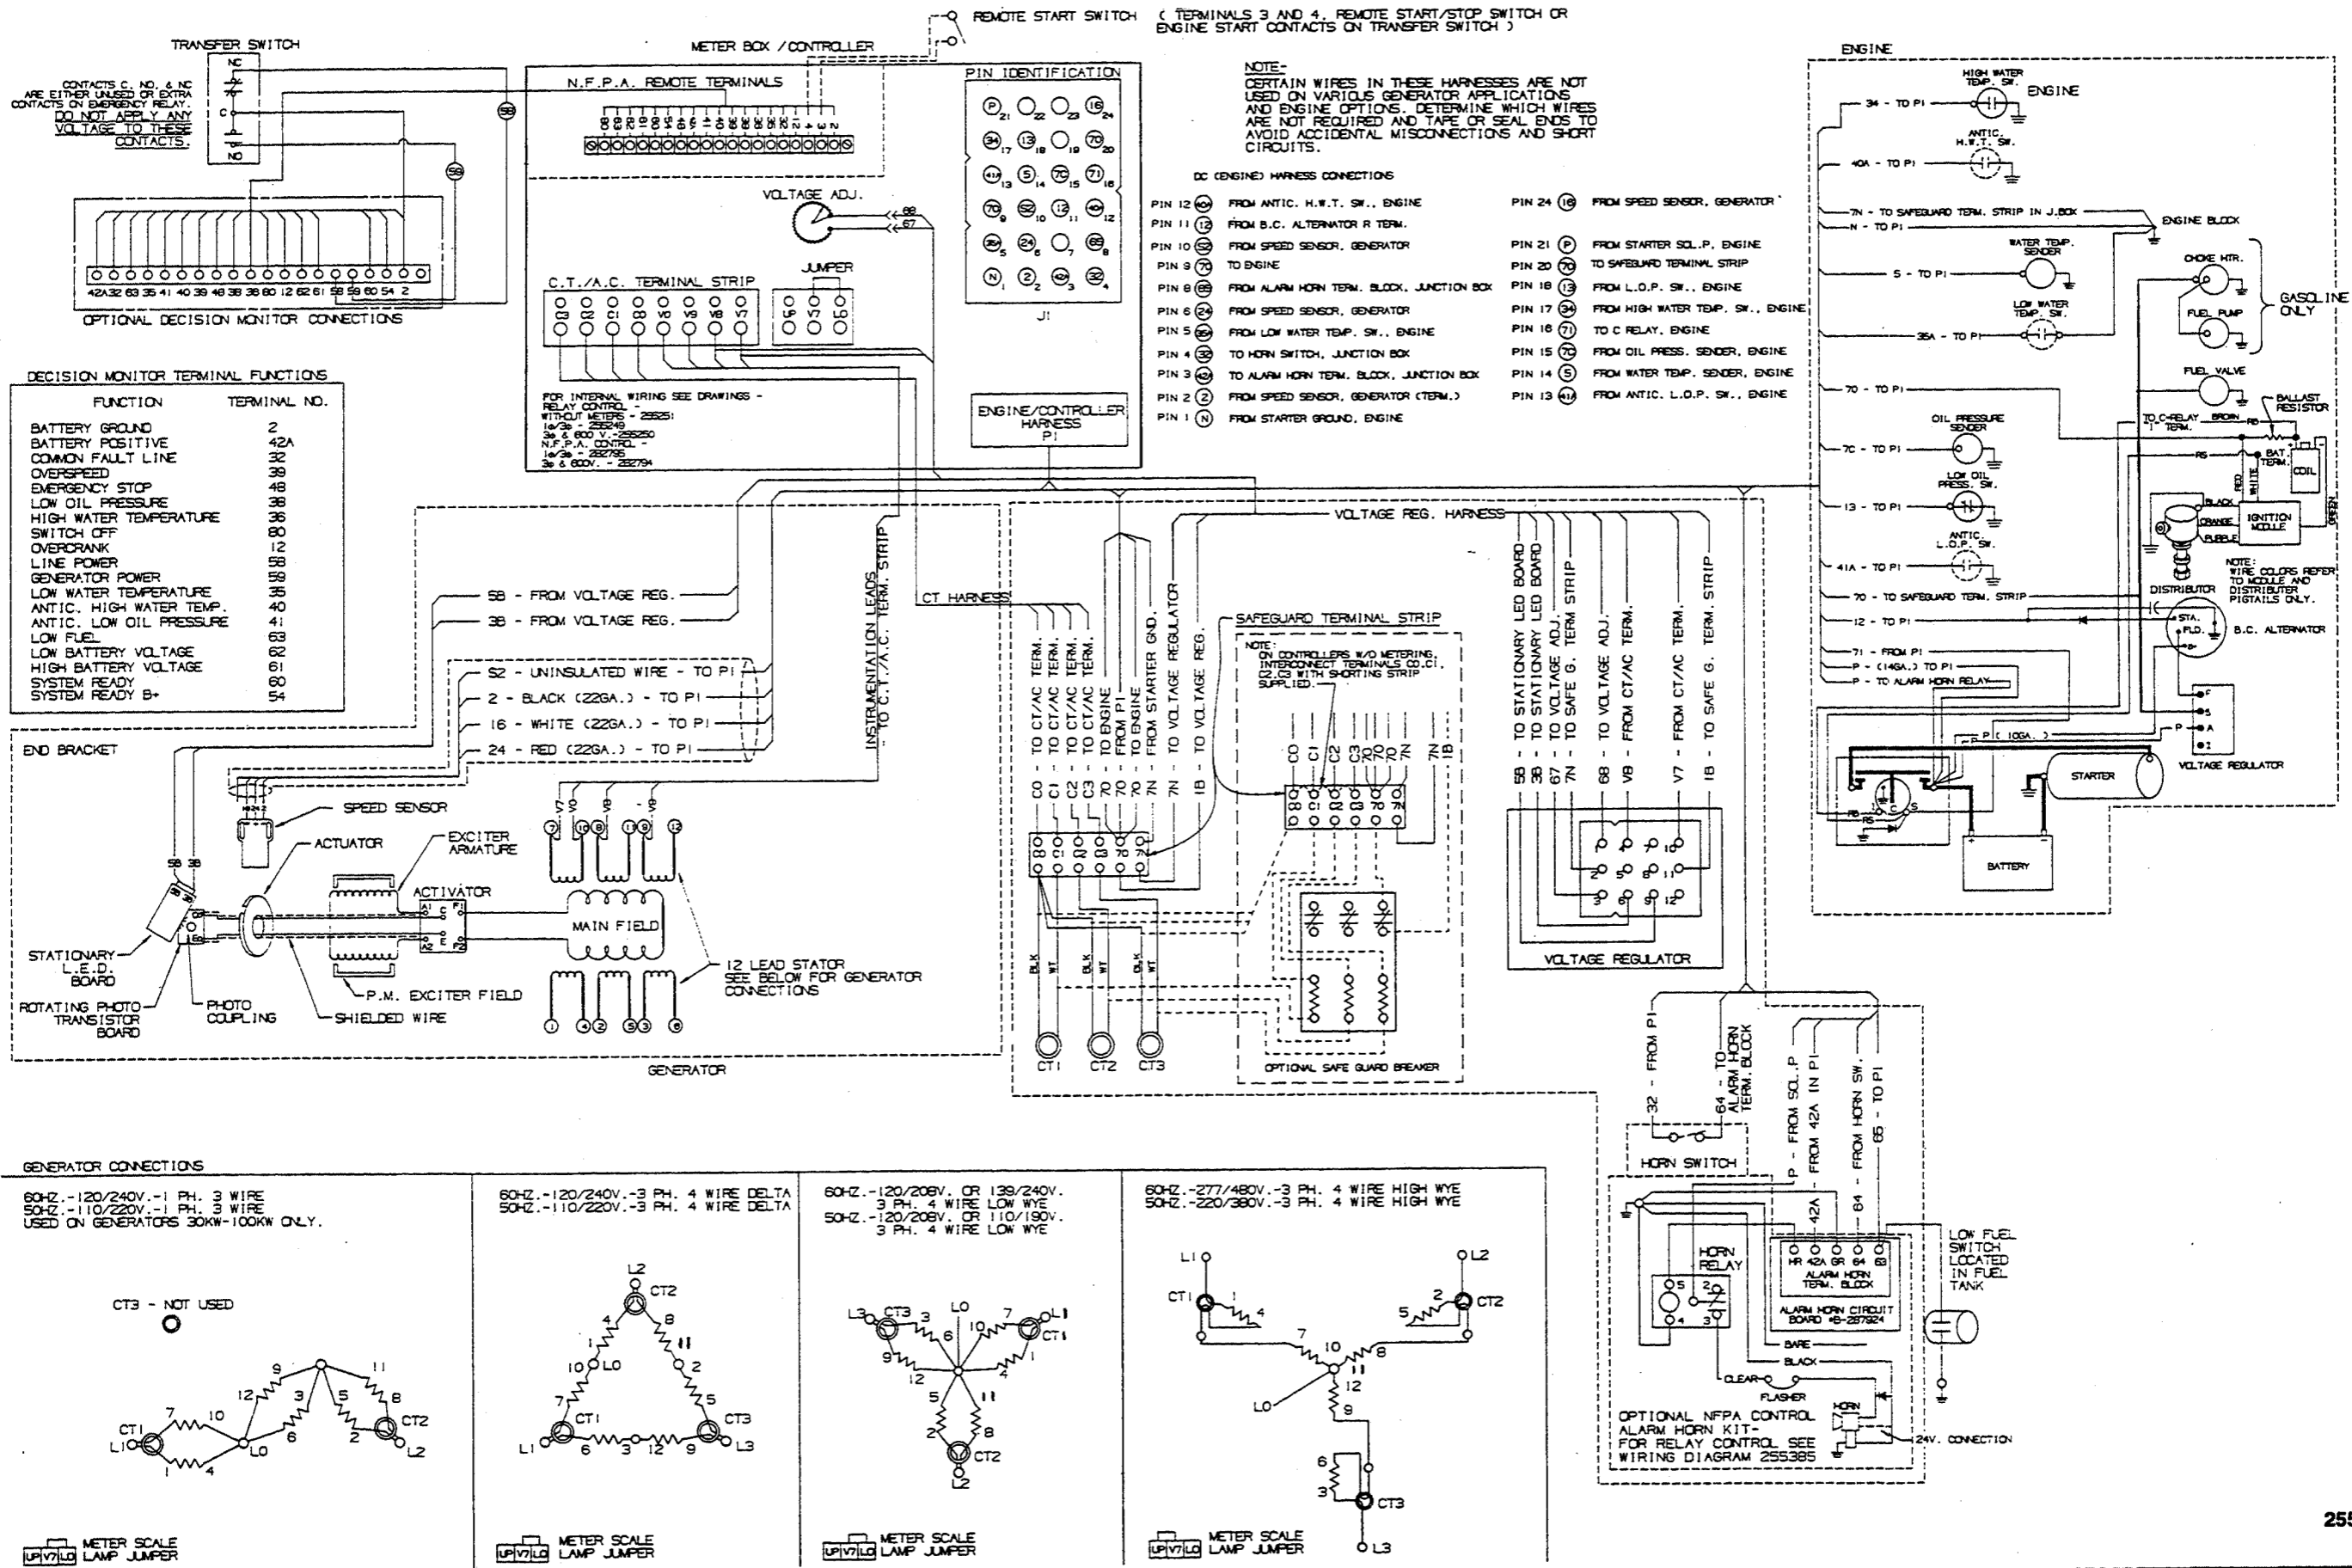

Figure 7-2. Ford LSG-423 Gas/Gasoline, 1-Phase/3-Phase
- Figure 7-2. Ford LSG-423 Gas/Gasoline, 1-Phase/3-Phase